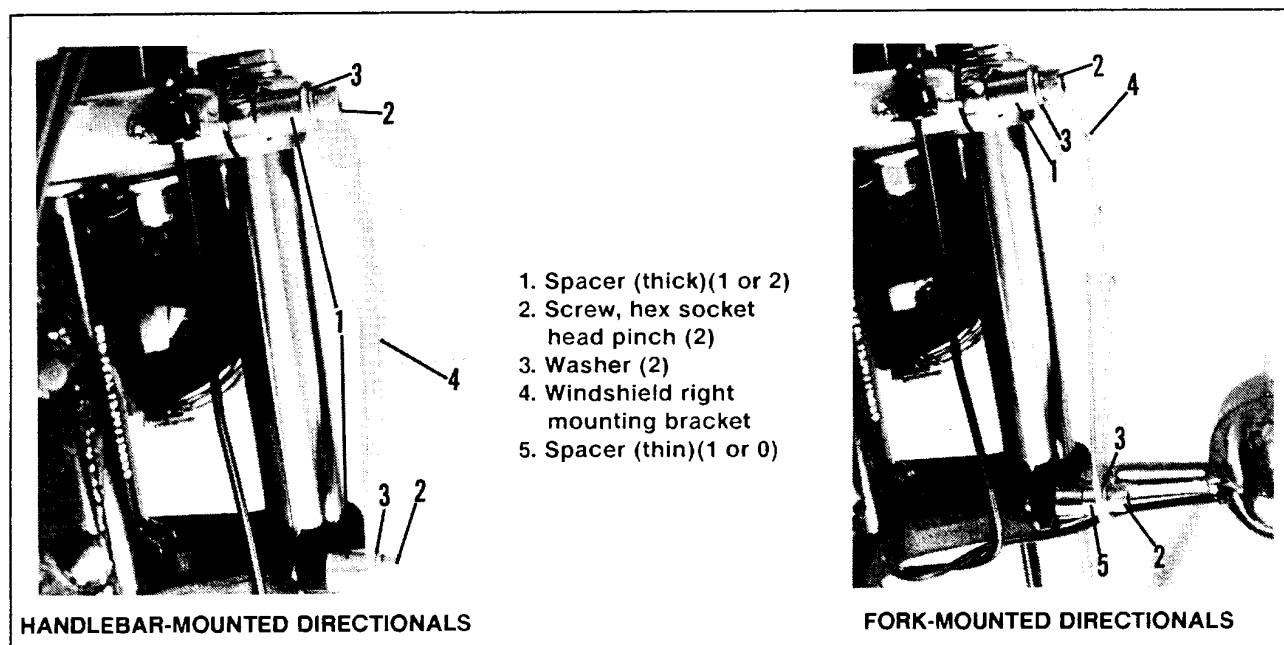

Figure 2. Accessory Compact Windshield Kit 58006-87 -- Right Side Mounting Hardware
See Figure 2. 1987 - Early 1993 FXR models equipped with accessory Compact Windshield Kit 58006-87 will have hex socket head front fork bracket pinch screws (2) and old style windshield mounting brackets (4) installed. Replace the pinch screws and windshield mounting brackets on these models. Install Hardware Kit 93679, which contains the following components:
2. See Figure 2. Remove and discard fasteners which attach right side of windshield assembly to windshield right mounting bracket (4).
3. Remove hex socket head pinch screw (2), washer (3), and spacer (1) from right side of front fork upper bracket; discard screw, washer, and spacer.